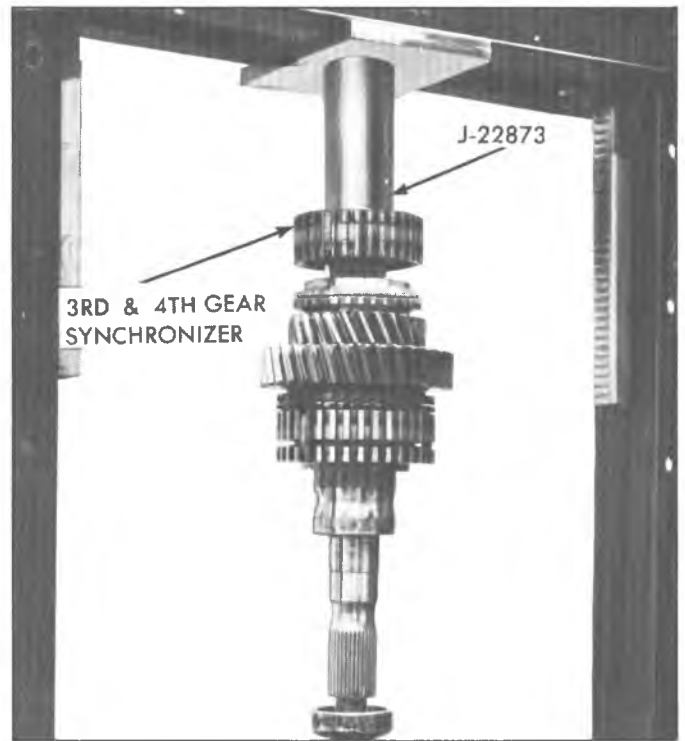

Fig. 19Q--Installing 3rd and 4th Gear Synchronizer
8. Index synchronizer ring key slots with synchronizer assembly keys and drive 3rd and 4th synchronizer assembly onto mainshaft using Tool J-22875 and against 3rd speed gear bushing thrust face toward 3rd speed gear (fig. 19Q). Retain synchronizer assembly with snap ring.